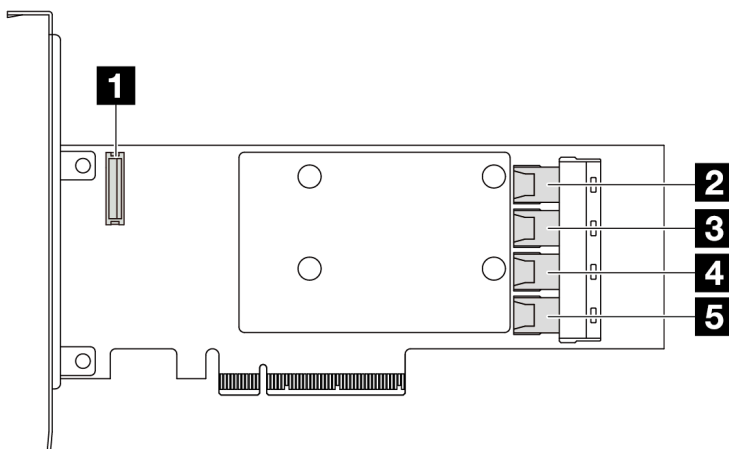

Figure 317. A Gen 3 16i SFF RAID/HBA adapter (four port connectors)
- Figure 317 “A Gen 3 16i SFF RAID adapter (four port connectors)” on page 343